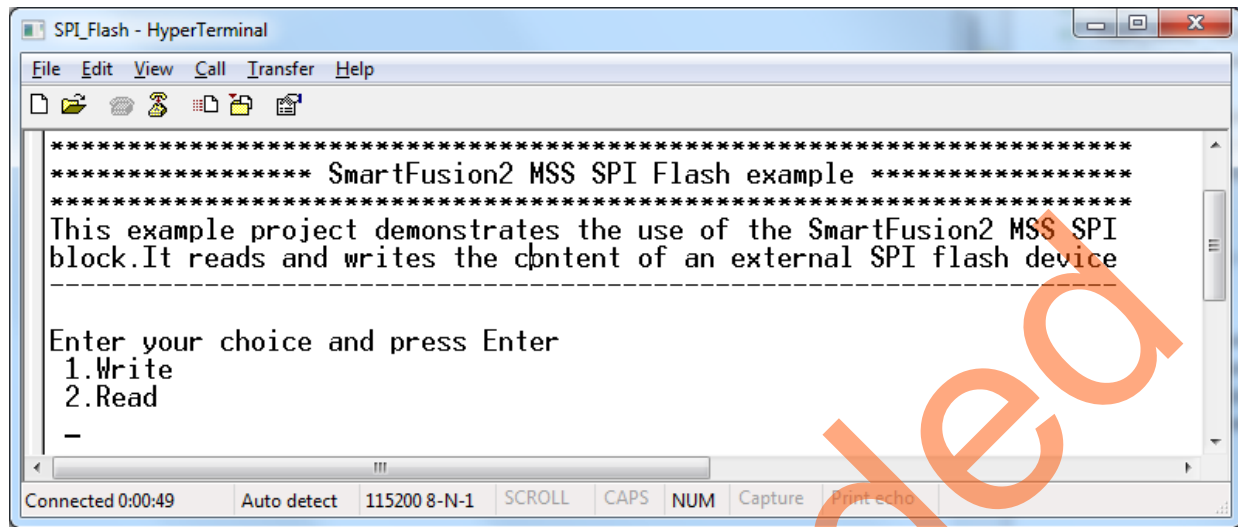

Figure 39 • HyperTerminal Window
- On successful operation, the HyperTerminal window displays a message as shown in Figure 39.